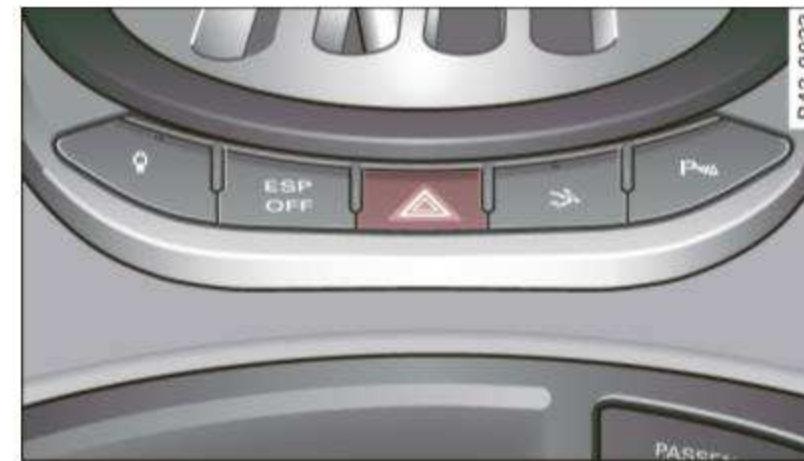

Fig. 44 Center console: emergency flasher switch
- Press the switch  ⇒ fig. 44 to switch the emergency flasher on or off.